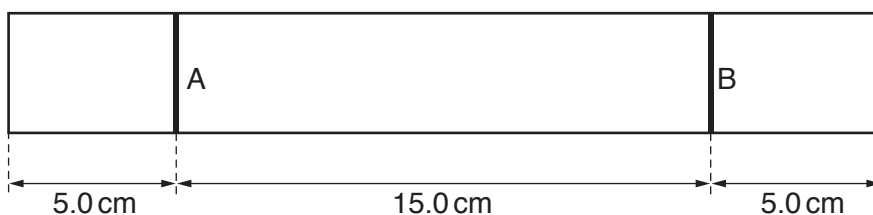

Fig. 2.3
- 3 Each strip of paper should have dimensions 3.0 cm × 25.0 cm. Two parallel lines should be drawn on each strip 15.0 cm apart and labelled A and B, as shown in Fig. 2.3.